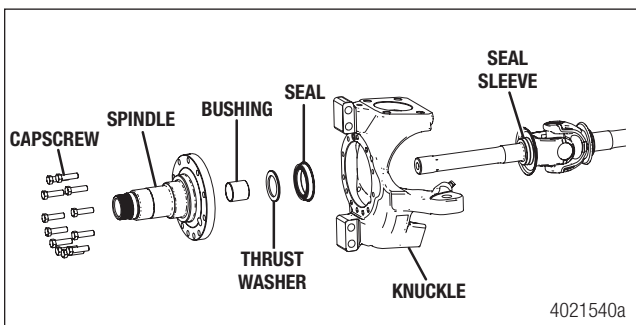

Figure 6.13
2. Remove the capscrews securing the spindle to the steering knuckle. Figure 6.13.
4. Remove the seal sleeve from the axle shaft. Figure 6.13.